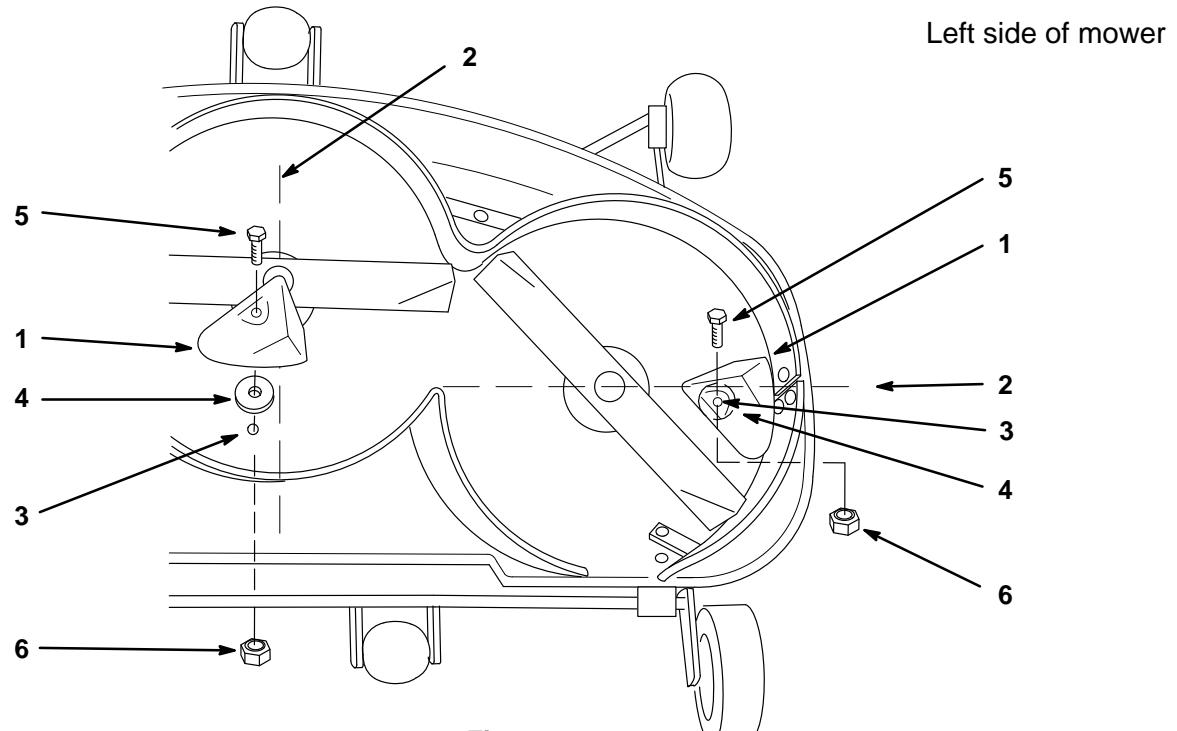

Figure 9
6. Place kickers in center and left chambers so points align with spindle center lines (Fig. 9).
7. Hold kickers tight against deck baffle and mark hole locations (Fig. 9).
8. Remove kickers and drill (2) 11/32" holes in deck (Fig. 9).